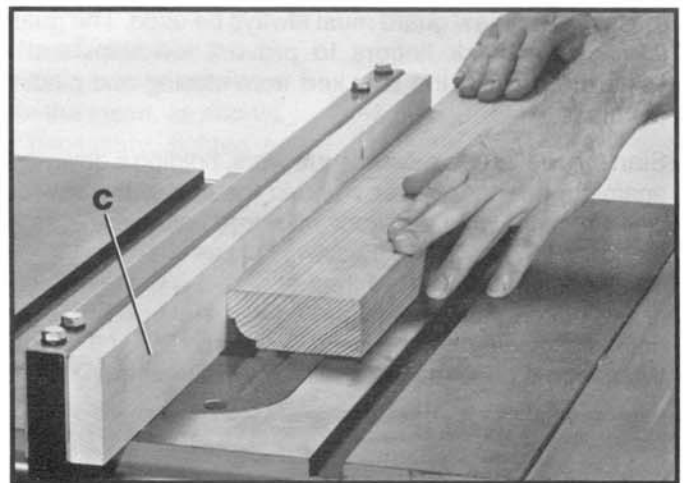

Fig. 37
It is necessary when using the moulding cutterhead to add wood-facing (C) to one or both sides of the rip fence, as shown in Fig. 37. The wood-facing is attached to the fence with wood screws through the holes provided in the fence. 3/4 inch stock is suitable for most work although an occasional job may require 1 inch facing.
Position the wood-facing over the cutterhead with the cutterhead below the surface of the table. Turn the saw on and raise the cutterhead. The cutterhead will cut its own groove in the wood-facing. Fig. 37, shows a typical moulding operation. **NEVER USE MOULDING CUTTERHEAD IN A BEVEL POSITION.**